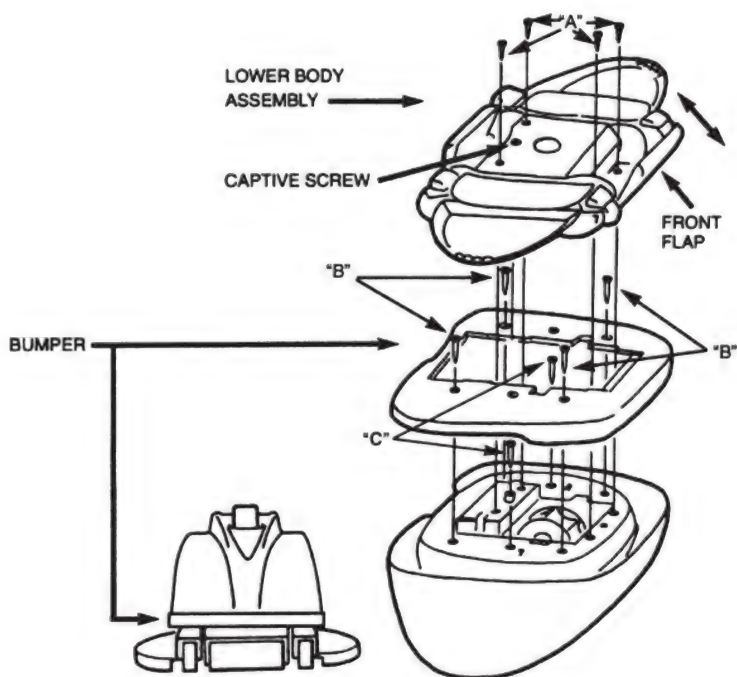

Figure 13
- e) Locate and loosen the captive screw behind the throat in the center of the bottom (see Figures 13, 14 & 15).
- g) Remove four (4) "A" screws (see Figure 13).
- h) Lift the Lower Body Assembly off the Navigator (see Figure 13).
- i) Remove four (4) "B" screws (see Figure 13).
- k) Remove two (2) "C" screws (see Figure 13).